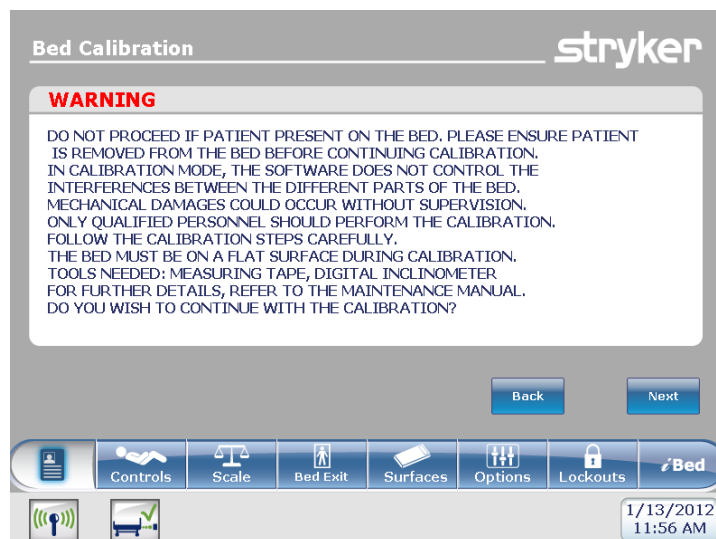

Figure 4: Bed Calibration - WARNING
Refer to Figure 4 for WARNING details.
2. After pressing the Bed Calibration button, Figure 4 will be displayed. Press "NEXT" to continue with calibration.